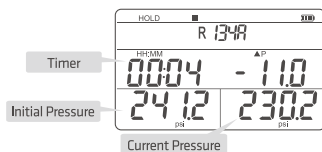

FIG.5 Start the Pressure Holding Test Interface
3. Press the **▶||** button briefly to start the pressure holding test (the **■** icon is displayed), and the timer starts at the same time [FIG.5].